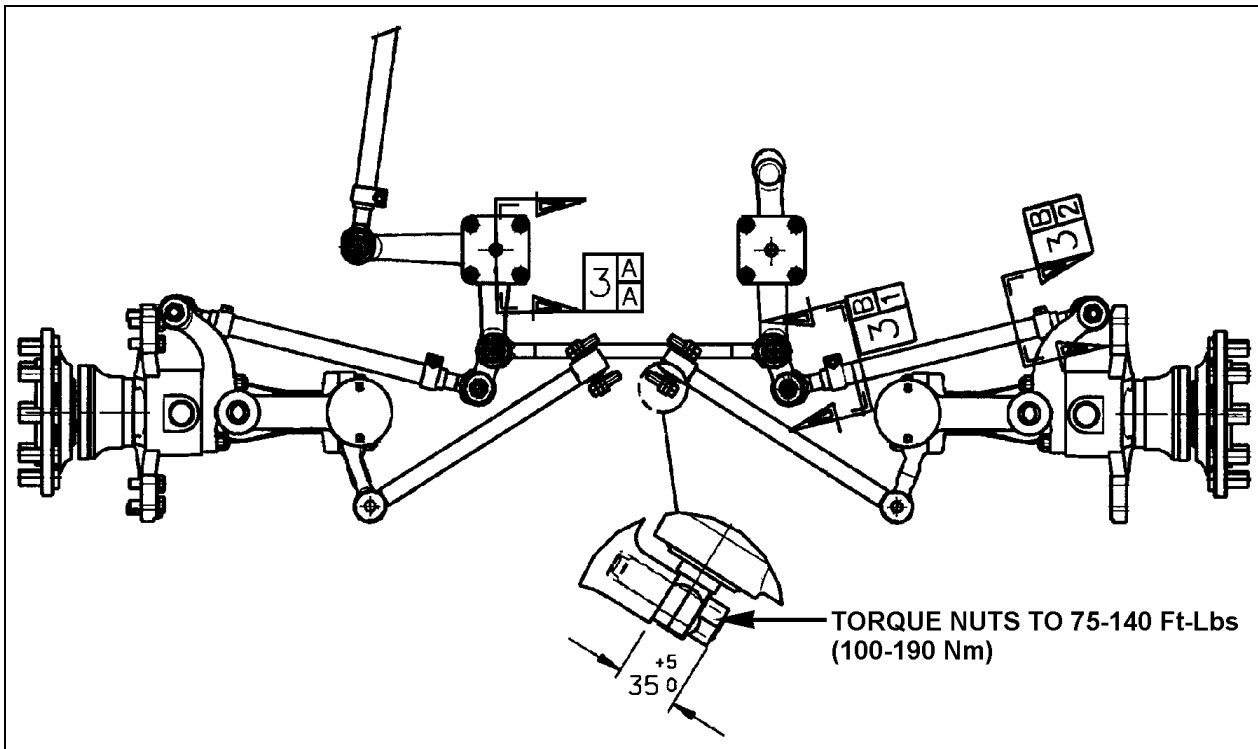

FIGURE 2: LOCATION OF CLAMPS
2. For a full left and right turn, check clamps' position and for interfering parts. Refer to figures 2 to 5 for location and positioning of clamps. If readjustment is required, make the proper adjustment.